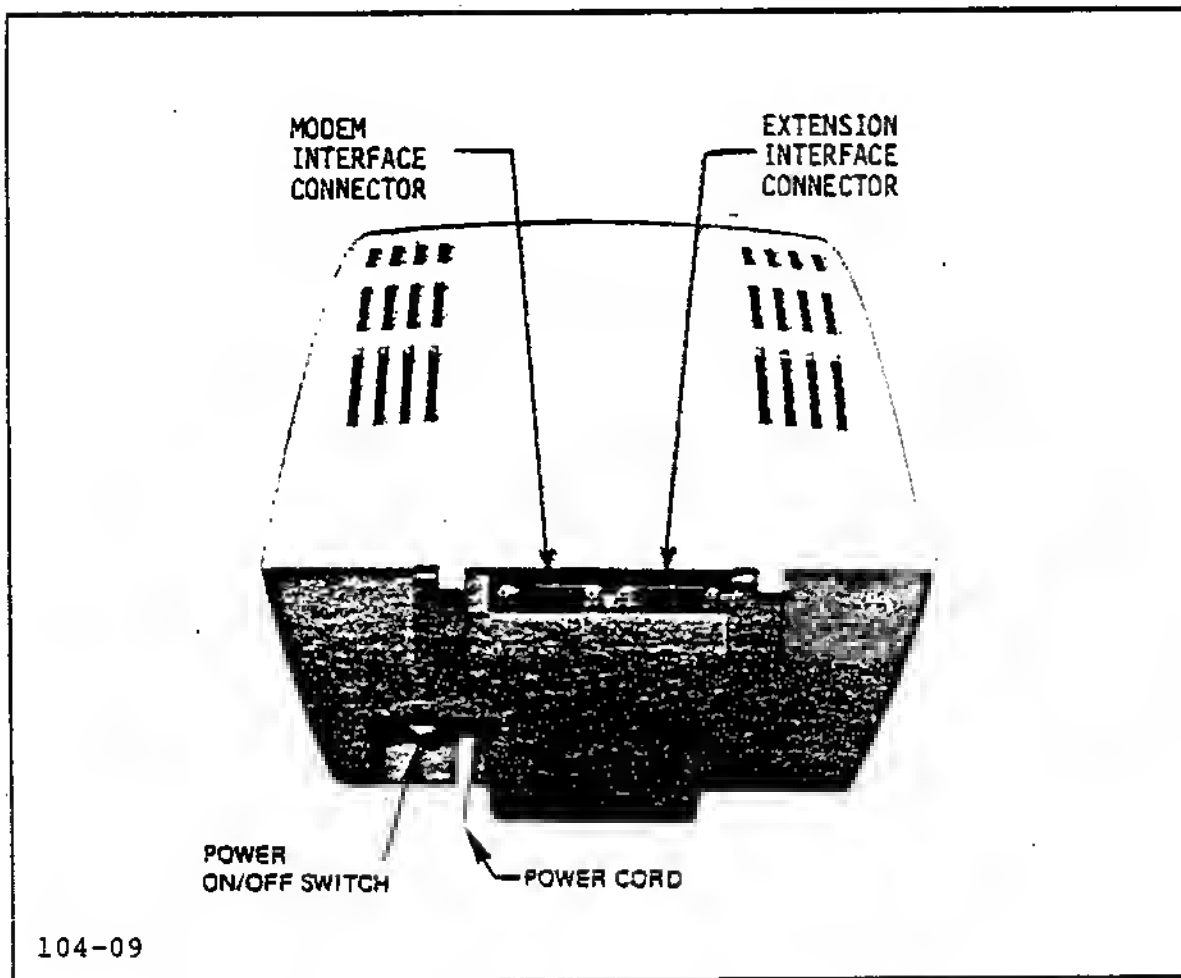

Figure 2-4. ADM-3A Rear Panel Controls
1. Set the ON/OFF switch (figure 2-4) to the ON position.